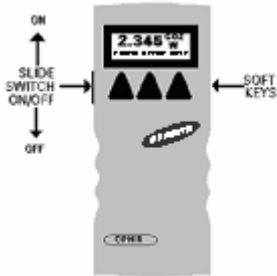

Figure 2.
The Orion is equipped with "soft keys." That is, the functions of the keys change as indicated by the legend above each key. (See Figure 2).
1. Push up the slide switch on the left side of the Orion display. (See Figure 2).